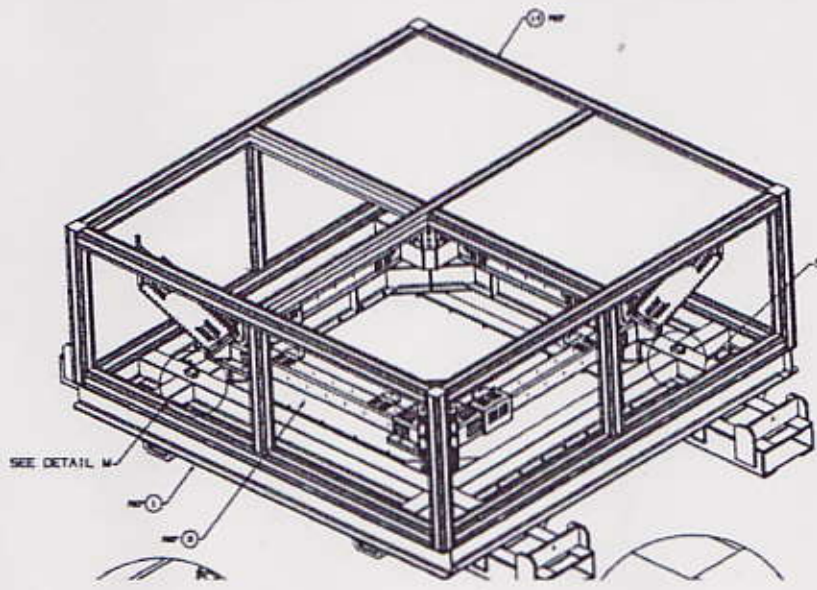

Figure 1
2.	<p>Ref: Drawing SEG38116930. Disassemble the Shipping Cover, item 14 in Figure 1, from the Lower USS Shipping Fixture by removing the fasteners, Screw Button HD Cap, HTHMBSCHM8X1-21, and flat washers, NAS1149E0563R. Place the fasteners in a marked bag for identification.</p>